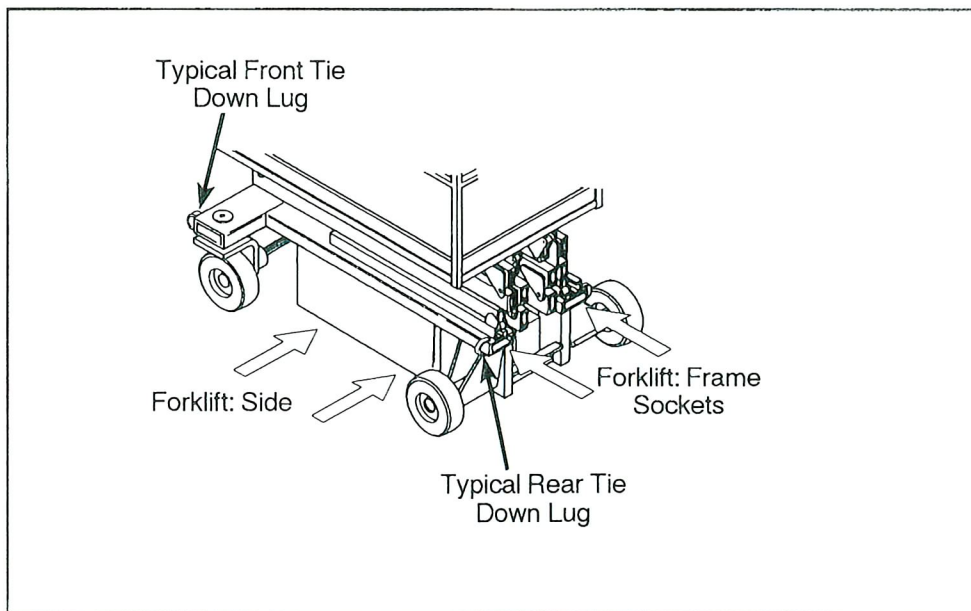

Figure 6: Transporting Work Platform
Forklift from rear using frame sockets or from the side by lifting under Chassis Modules (Figure 6).
2. Secure the work platform to the transport vehicle with chains or straps of adequate load capacity attached to the chassis tie down lugs (Figure 6).